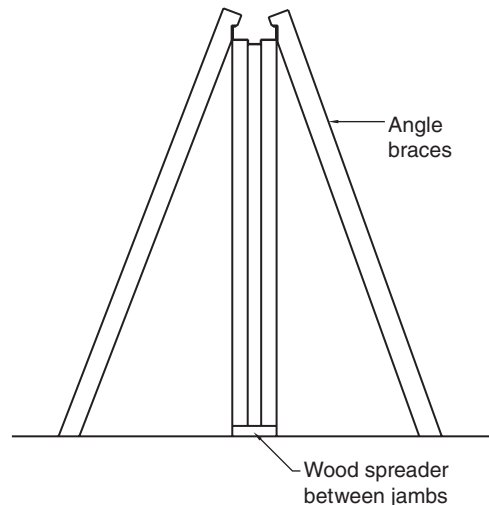

Figure 17 – Erect frame
9.3 Square, brace and plumb frame as shown (see Figure 17).